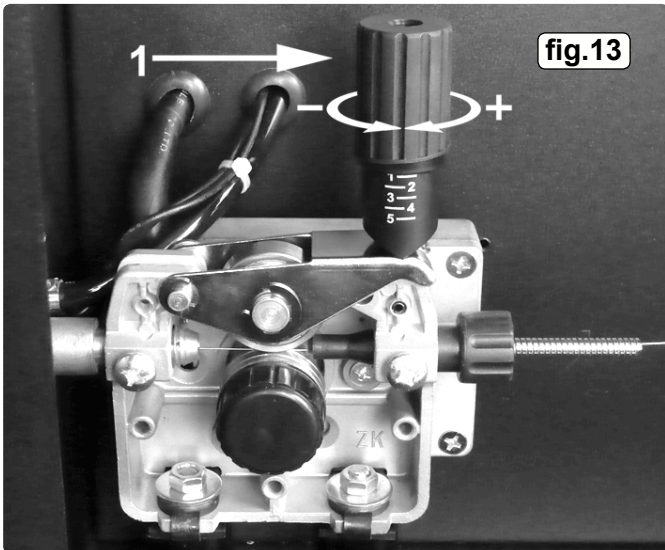

fig.13
- 3.9.3** Push down the pressure roller carrier onto the wire feed roller and hold it down. Lift up the locking/wire tension knob so that it enters the slot in the pressure roller carrier and snaps into the indent in its top surface. See fig.13. Rotate the tension knob to a medium setting i.e. between 2 and 3.
- 3.10 SETTING WIRE TENSION.** Adjust the wire tension by rotating the wire tension knob. Turn clockwise to increase the tension and anticlockwise to decrease the tension. See (1) in fig.13. **IMPORTANT:** Too little or too much tension will cause problematic wire feed and result in poor welding.